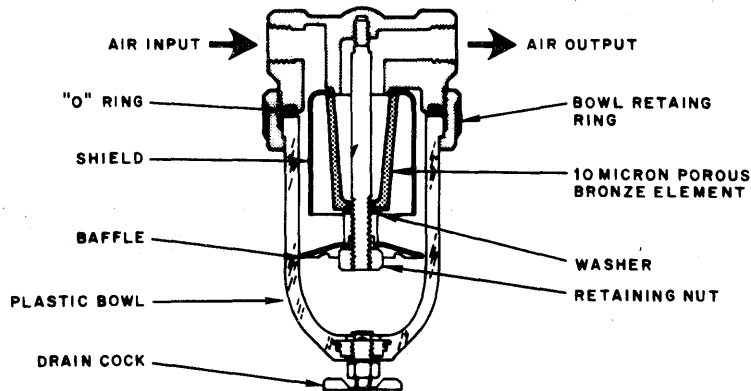

FIGURE 6.5-1
- d. Unscrew the retaining ring which holds the bowl to the assembly. Remove the bowl. Refer to Figure 6.5-1.